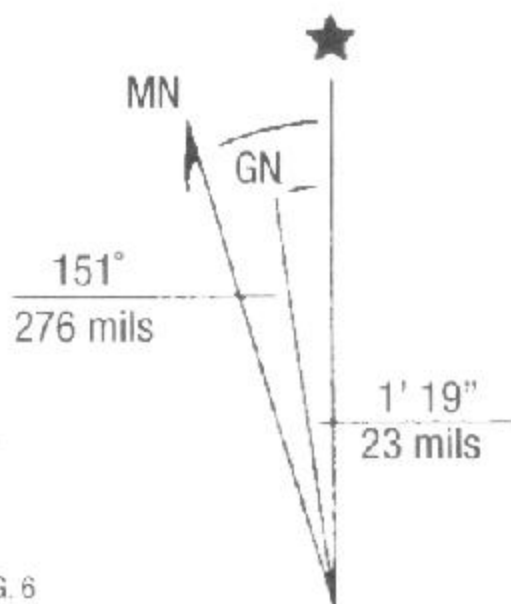

FIG. 6
1ST METHOD - WITH MAGNETIC N (MN) ARROW SHOWN (SEE DECLINATION DIAGRAM, FIG. 6, SECTION K).
3. **NORTH** - GENERALLY A TOPOGRAPHICAL MAP (A MAP USING CONTOUR LINES TO SHOW ELEVATION AND MAKE POSSIBLE THE IDENTIFICATION OF CANYONS, PEAKS, RIDGES AND OTHER TERRAIN FEATURES) SHOWS THREE NORTHS IN THE DECLINATION DIAGRAM. (FIG. 6)
a. **TRUE NORTH** - THE ACTUAL POSITION OF THE NORTH POLE OF THE EARTH'S SURFACE. IT IS THE NORTHERLY POINT TOWARD WHICH THE MERIDIANS (NORTH, SOUTH OR LONGITUDINAL LINES) BETWEEN THE POLES ARE DRAWN. MAPS GENERALLY ARE ORIENTED TO TRUE NORTH. (SHOWN IN FIGURE 6 BY A RAY OR LINE TIPPED WITH A STAR).
RUN GENERALLY NORTHWARD AND SOUTHWARD, CAUSING A COMPASS TO POINT VARIOUSLY, DEPENDING ON LOCATION. THESE MAGNETIC "POLAR AREAS" ARE MORE THAN 1000 MILES AWAY FROM THE NORTH AND SOUTH POLES AND IT IS IN THESE DIRECTIONS THAT THE COMPASS MAGNET POINTS. (SHOWN IN FIG. 6 BY A RAY TIPPED WITH MN AND/OR A SINGLE BARBED SPEAR).
c. **GRID NORTH** - THE NORTH INDICATED BY THE MAP MERIDIANS RUNNING LONGITUDINALLY. BECAUSE OF THE EARTH'S CURVATURE, THESE LINES ARE OFTEN PULLED A LITTLE AWAY FROM THE TRUE MERIDIAN IN ORDER TO PROVIDE A STRAIGHT LINE, RECTANGULAR LAYOUT OF COORDINATES. (SHOWN IN FIG. 6 BY A RAY TIPPED WITH GN.)
3. NORTH • FIG. 6 - DECLINATION DIAGRAM